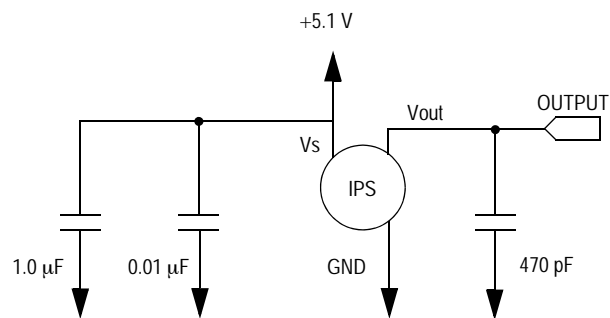

Figure 3. Recommended Power Supply Decoupling and Output Filtering
**Table 1. Operating Characteristics** ( $V_S = 5.1 V_{DC}$ ,  $T_A = 25^\circ C$  unless otherwise noted,  $P_1 > P_2$ , Decoupling circuit shown in Figure 3 required to meet electrical specifications.)
Figure 3 shows the recommended decoupling circuit for interfacing the output of the integrated sensor to the A/D input of a microprocessor or microcontroller.
Figure 4 shows the sensor output signal relative to pressure input. Typical, minimum, and maximum output curves are shown for operation over temperature range of 0° to 85°C using the decoupling circuit shown in Figure 3. The output will saturate outside of the specified pressure range.